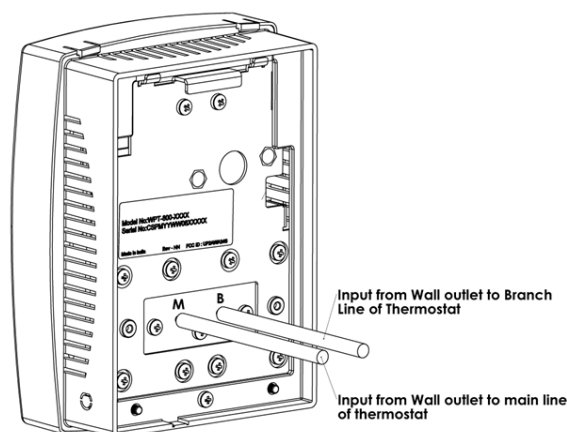

Figure 6. Connecting Main and Branch Tubes to M and B Ports
5. Connect the branch and main tubes to the air tubes marked B and M on the rear of the WPT, as shown in Figure 6. Connect the pneumatic tube to the M port in case of single pipe WPT.